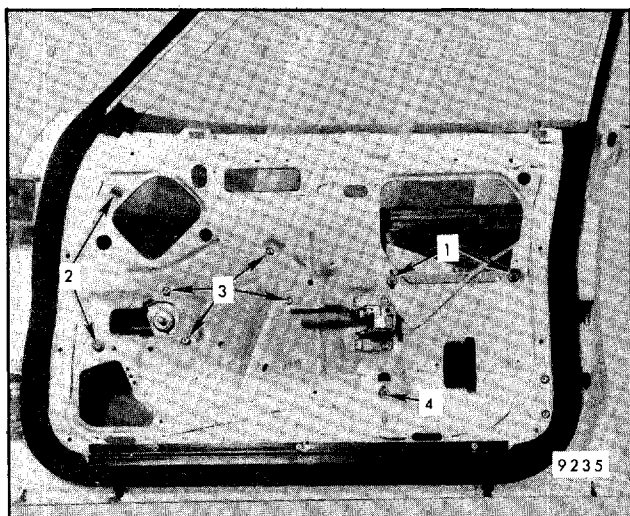

Fig. 5-115-Window Hardware - "B, C" Styles (Sedan Door Shown, Coupe Door Similar)
1. WINDOW ROTATED - Remove armrest, trim panel and water deflector. Adjust inner panel cam ("1" Fig. 5-115) as required, then torque attaching screws to 8 N·m (72 in-lb). On "B" 4-door styles, it is possible to gain access to cam adjusting screw by removing armrest only; then tearing perforated portion out of insulator (if so equipped) and water deflector from clearance slot in trim panel above remote handle to expose cam adjusting screw.
2. WINDOW TOO HIGH OR LOW IN DOWN POSITION - Remove armrest, door trim panel and water deflector. Adjust down stop ("4", Fig. 5-115) and tighten attaching screw to 8 N·m (72 in-lb).
2. With window raised, remove front run channel retainer ("2", Fig. 5-115) and inner panel cam ("1", Fig. 5-115).